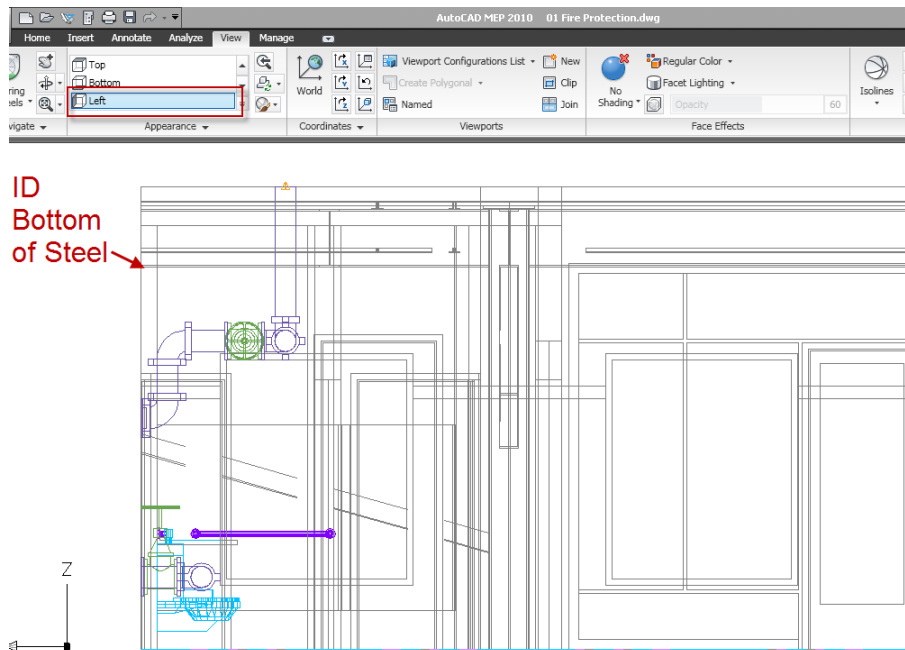

Figure 6.76
15. Using the Nearest osnap, ID the lowest points on the Steel objects (see Figure 6.76). If you are getting a Z value of 0, make sure the Replace z value with current elevation is toggled off.